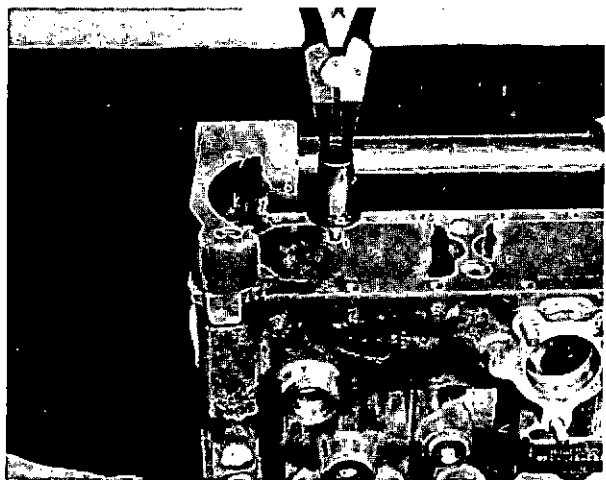

Fig. 33 Fitting control sleeves.
11. Set the control rack to mid-position (i.e. with control sleeve notches in line with tappet guides) and fit the control sleeves (fig. 33), ensuring that in each case the driving ball is engaged with the rack notch. Check that the rack has free and full movement.